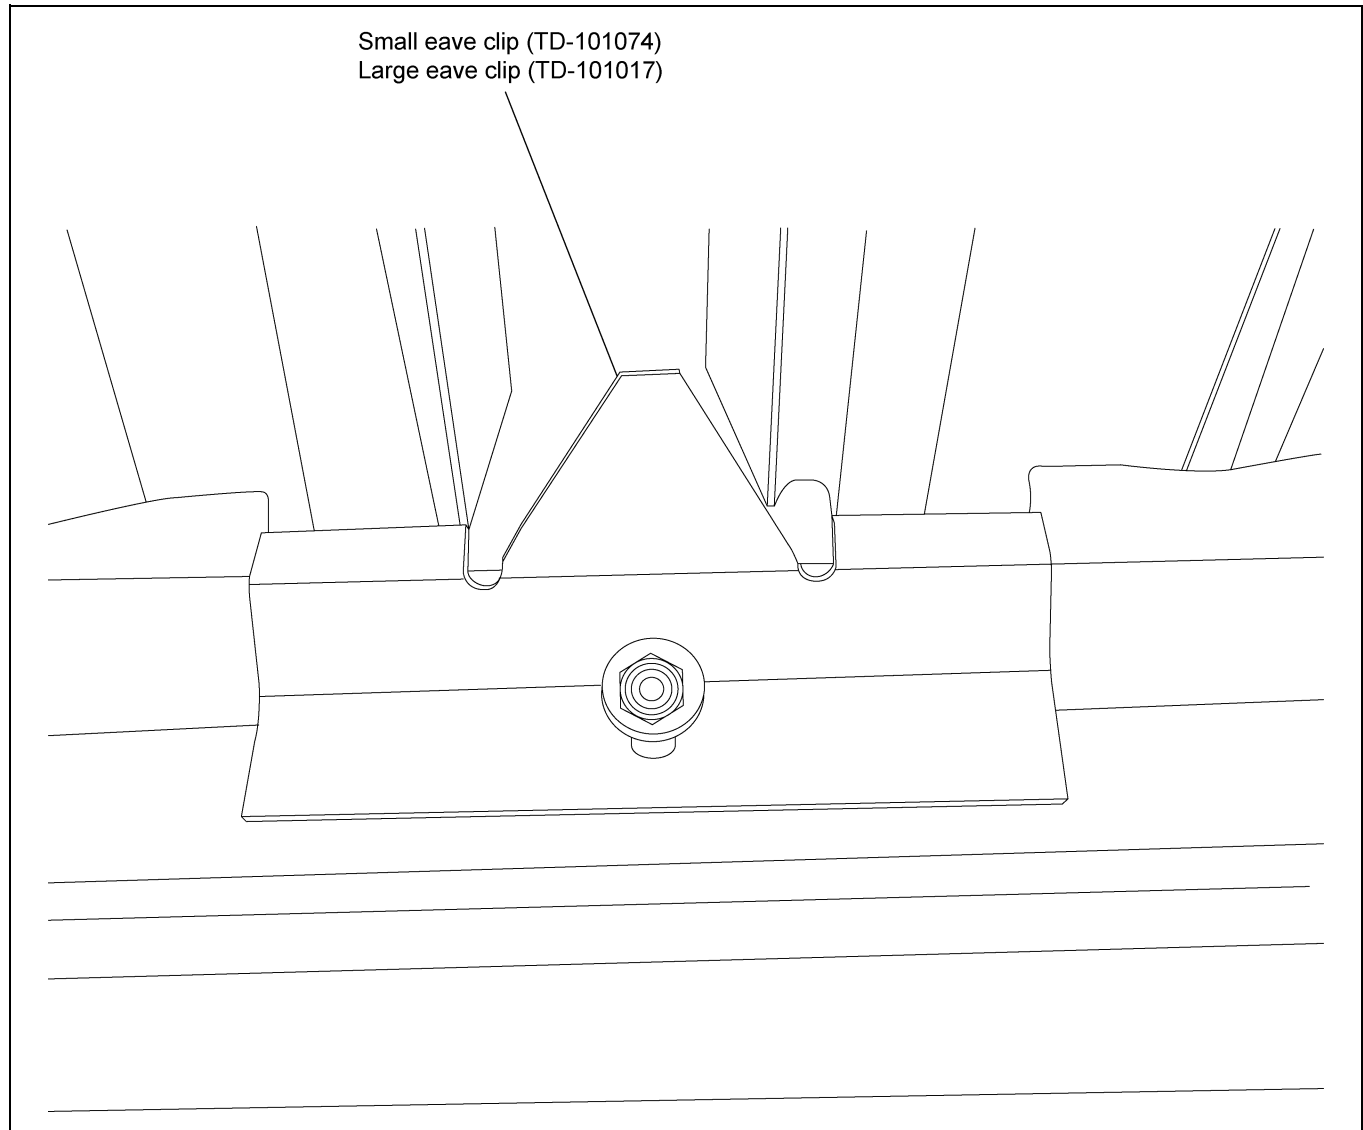

Figure 9G
3. Use roof brackets (TD-100274) shipped in the roof hardware package. *(See Figure 9G.)*